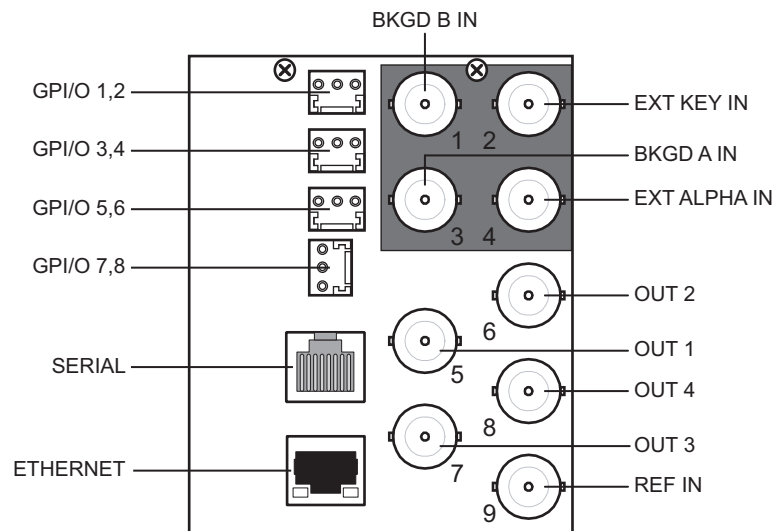

Figure 6 Cabling Designations — 8320AR-033 Rear Module
2. Connect and secure the RJ-45 connector of the Serial Interface Cable to the **Serial** port on the rear module. (**Figure 6**)
2. Connect the card to the same subnet as your DashBoard computer or to a network that has a route to the network your DashBoard computer is on. Refer to **Figure 6** for the **Ethernet** port location on the rear module.
1. Locate the GPI/Tally ports on the rear module. Refer to the rear module labeling, and **Figure 6** for port locations.
1. Locate the GPI/Tally ports on the rear module. Refer to the rear module labeling, and **Figure 6** for locations.